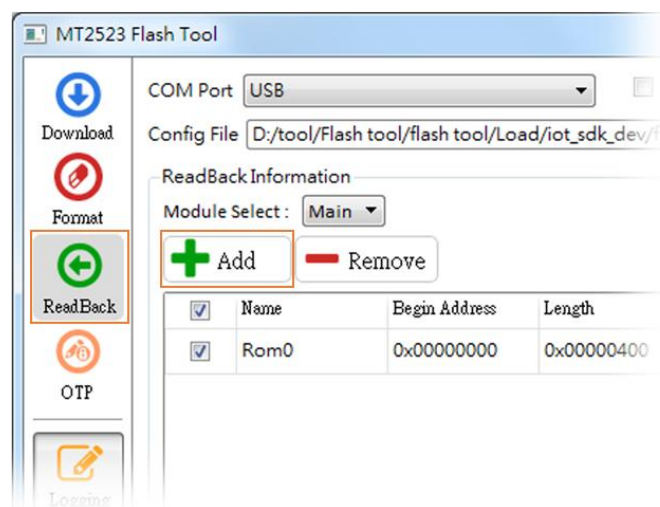

Figure 5. Adding a readback file
- 1) Click **Add** to add a readback file, as shown in Figure 5.